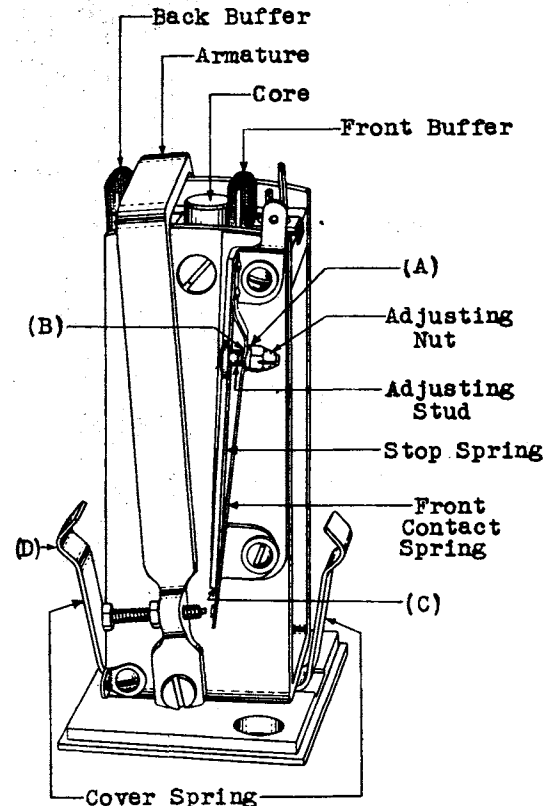

Fig. 1
- 2.03 Cover Spring Pressure - Fig. 1 (D) - The cover springs shall have sufficient pressure against the cover to hold the cover securely in place. Gauge by feel.
- 2.04 Adjusting Nut Tightness - Fig. 1 (A) - The adjusting nut shall be sufficiently tight on the adjusting stud to hold any adjusted position. Gauge by feel.
- 2.05 Adjusting Stud and Contact Spring Clearance - Fig. 1 (B) - The front contact spring shall not bind on the adjusting stud. Gauge by feel.
- 2.06 Front Contact Spring Position - Fig. 1 (C) - The front contact spring